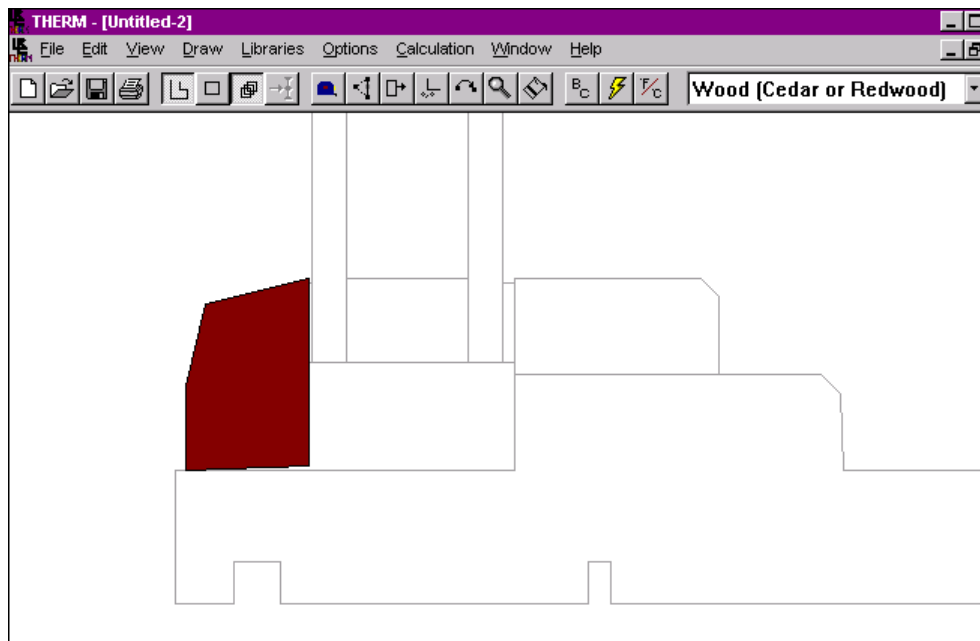

Figure 8-19. The first polygon, representing the exterior stop, has been drawn.
- Move the mouse to the next point in a counterclockwise direction (moving in a counterclockwise direction is not required, but is recommended) and click the left mouse button when you have reached the next point. Continue around the component until you only have one more line to draw. To draw the last line and close the polygon, you can either press C (to close) or move the mouse to the first point and click the left mouse button. Either of these actions will cause THERM to complete the polygon, as shown in Figure 8-19, and fill it in with the color corresponding to the material definition (or to a shade of gray on monochrome monitors).